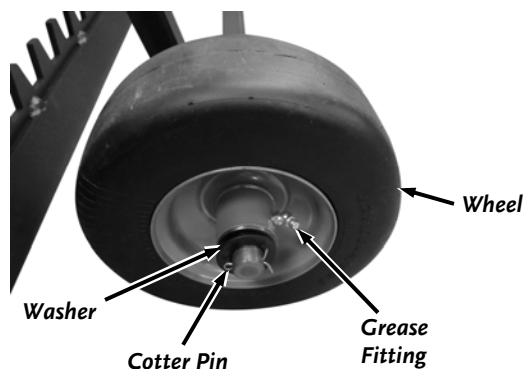

Figure 21
27. Install a Wheel and .8" ID, 1.5" OD x .11" Washer on each end of the Axle and secure with a Cotter Pin using Pliers to bend the ends (**Figure 21**).